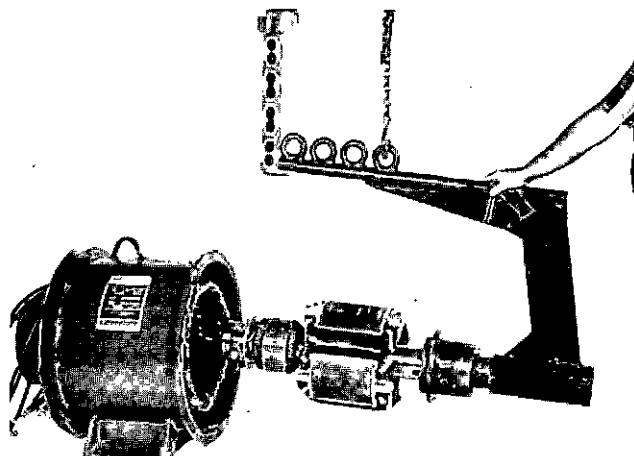

FIGURE 6-35
2. Using a rotor lifting fixture and a suitable hoist, carefully install the rotor assembly into the main stator assembly through the drive end. (Figure 6-35.)